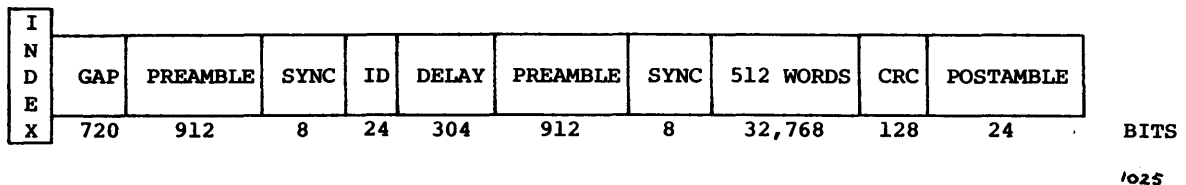

Figure 2-1. DD-29 DSU Data Sequence Pattern
Data recorded in a sector of a disk track consists of a number of parts, as shown in figure 2-1. The numbers below each segment in the figure are the total bits of all four heads for the segment.
The index mark begins the data sequence pattern for sector 0 as shown in figure 2-1 sector 0. The beginning location for the other sectors is determined by the servo counter. These begin every 746 servo pulses (8952 bit positions).
The data sequence pattern for a sector, as shown in figure 2-1, is recorded in two separate processes. The sector identification (ID) word, which appears as 6 bits under each recording head, is recorded on each new set of disk surfaces and is not modified in normal use of the DSU. The data block (512 words) and the CRC checkwords are recorded with each disk write function in normal operation. A preamble and sync for ID, and a preamble, sync, and postamble are associated with each of these recordings. They are necessary parts of the recording and reading process.